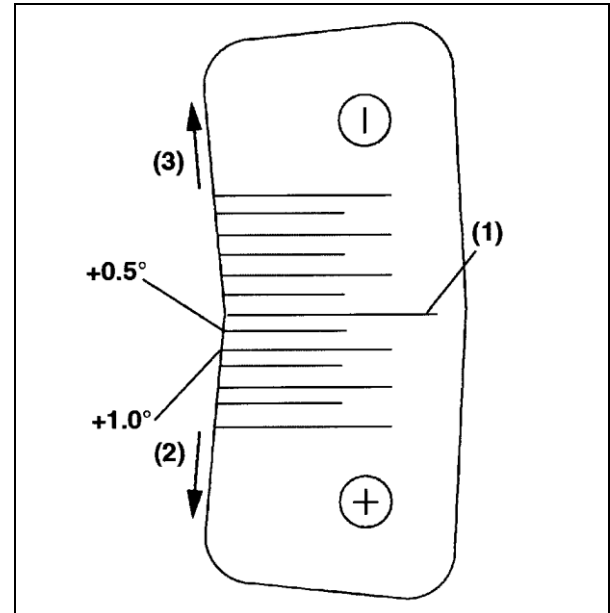

Figure 19
- If the difference between the timing index numbers is a positive number, the fuel injection pump mounting position must be advanced (Figure 19, (2)) (rotated away from the engine) as compared to the "standard mark" (Figure 19, (1)) by the calculated positive amount, adjust the fuel injection pump to the calculated value.
- If the difference between the timing index numbers is a negative number, the replacement injection pump must be retarded (Figure 19, (3)) (rotated toward the engine) by the calculated negative amount.
- Each mark on the timing sticker represents 0.50 timing change. The above calculated difference indicates that the replacement fuel injection pump is to be installed at +0.5° (advanced) from the "Standard Mark" (Figure 19, (1)) on the timing sticker.